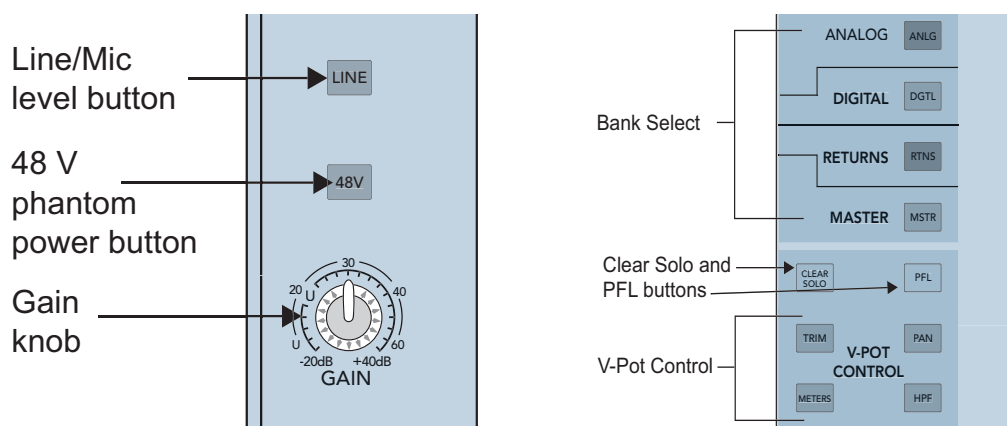

Figure 3-2 Top of channel strip (left); Bank select, Clear Solo, PFL, V-Pot control (right)
2. Press the **ANLG** bank select button (right of Figure 3-2).
3. Set the **LINE** switch to the up (mic) position (left of Figure 3-2).
5. Activate the **PFL** button (right of Figure 3-2).
17. Press **HPF** in the V-POT CONTROL area (Figure 3-2).